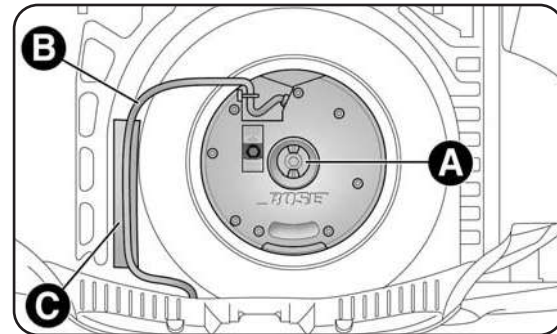

fig. 8
- undo locking device A - fig. 8 and lift up the subwoofer. Then remove connection cable B from velcro attachment C;
- rest cable B - fig. 8 on velcro attachment C to avoid pinching it. Then tighten locking device A - fig. 8. Lower the luggage compartment mat.
- using the spanner provided, fully tighten the bolts in the sequence shown in fig. 8;